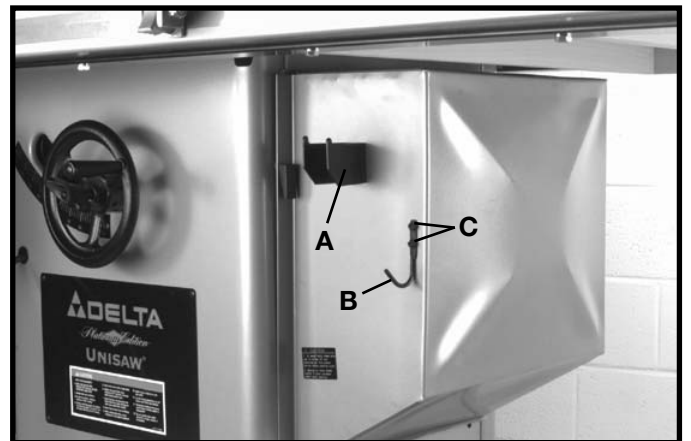

Fig. 45
1. Assemble the miter gage holder bracket (A) Fig. 45, and wrench holder bracket (B) to the four thru-holes on the front of the motor cover using the four 1/2" self-tapping screws supplied, two of which are shown at (C).